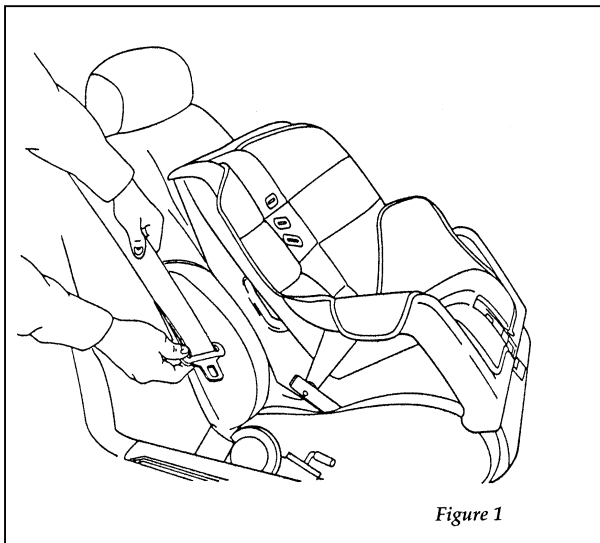

Figure 1
2. Pull up on the lap belt, Figure 1.
2. Pull down on shoulder belt, then grasp shoulder belt and lap belt together. See Figure 1.